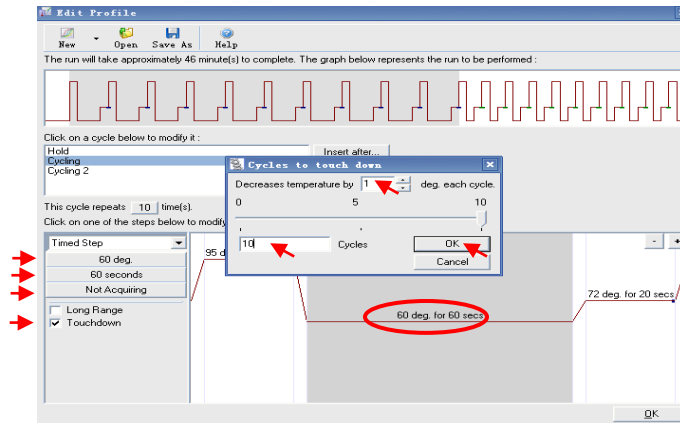
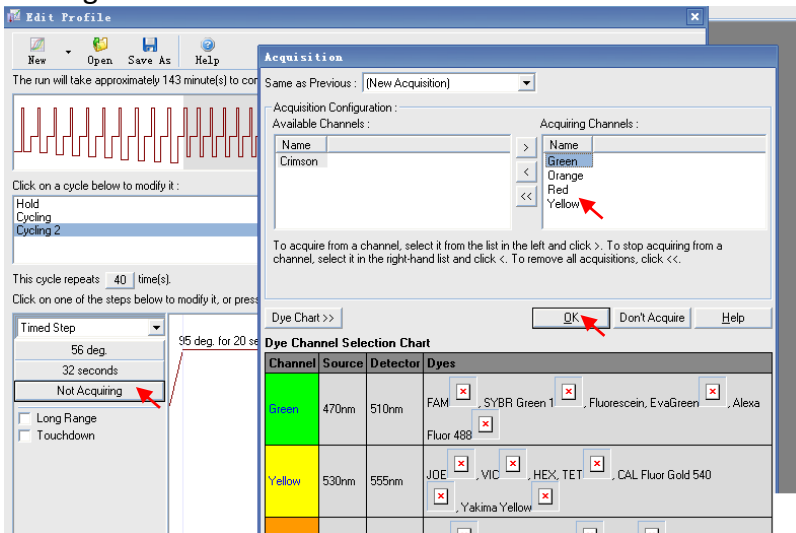

Figure 9
Figure 12
d. Choose the second step of “cycling”. Set the temperature as 65 degrees, set the time as 30 seconds, choose “not acquiring” and click on the “touchdown”. In the “Cycles to touch down”, set the “Decreases temperature” by 1 degree for each cycle and 5 cycles, click on “OK” to complete the set-up of touchdown (Figure 9).
Click on the “Not Acquiring” button. In the “Acquisition”, use the > to shift the Green, Orange, Red and Yellow channels in the “Available Channels” into the “Acquiring Channels”, click on “OK” to complete the set-up of this part (Figure 12). Then click on “OK” as shown in Figure 9.